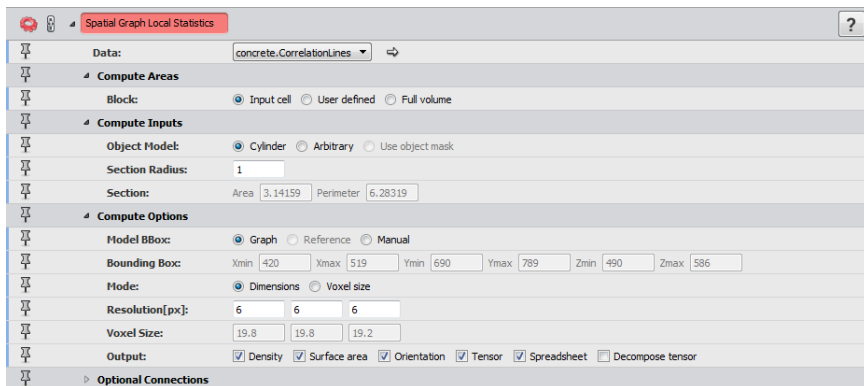

Figure 10.33: Parameters of the *Spatial Graph Local Statistics* Module
- Set the parameters as shown in Figure 10.33: